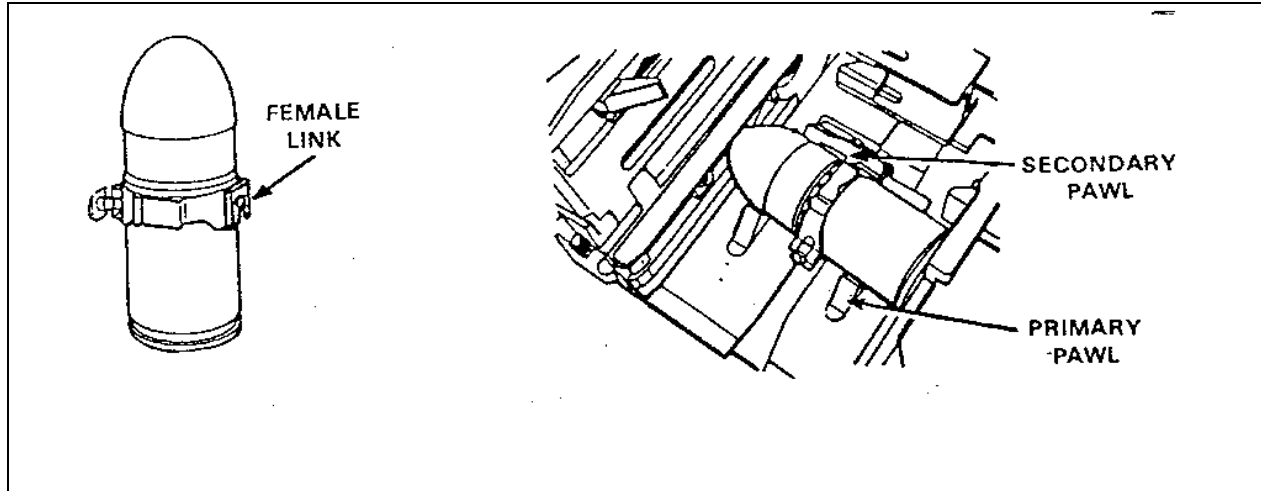

Figure 5. Loading
(1) Insert the first round into the feedway, female link first. (See Figure 5.)
(2) Push the round across the first feed pawl. Don't roll the round!
(3) Move the feed slide assembly to the left and close the cover.